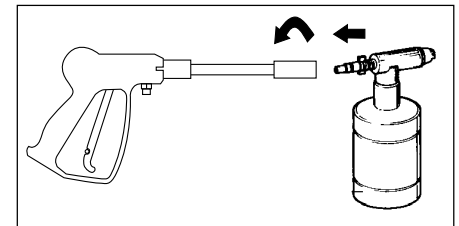

Figure 7
- Attach the detergent applicator to the gun as pictured in Figure 7.